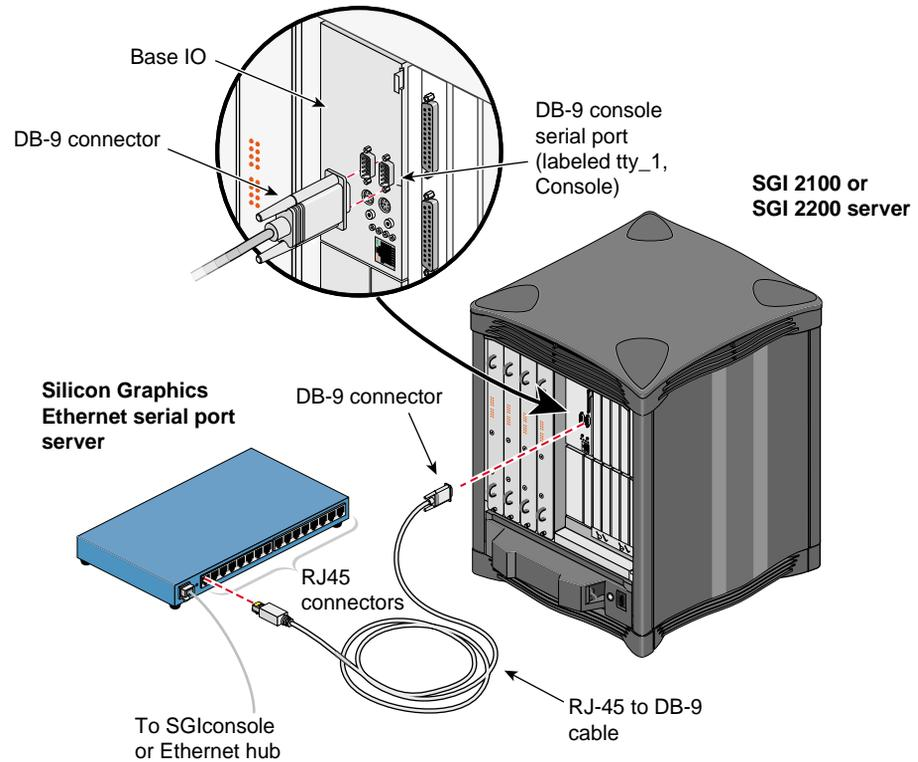

Figure 5-16 Connecting the SGI 2100 or SGI 2200 tty_1, Console Connector to the Serial Port Server
6. Connect the RJ-45 end of one of the RJ-45 to DB-9 cable to one of the RJ-45 jacks on the Silicon Graphics EL-16 serial port server. Connect the DB-9 connector to the SGI 2100 or SGI 2200 serial port jack labeled “tty_1, Console.” See Figure 5-16.